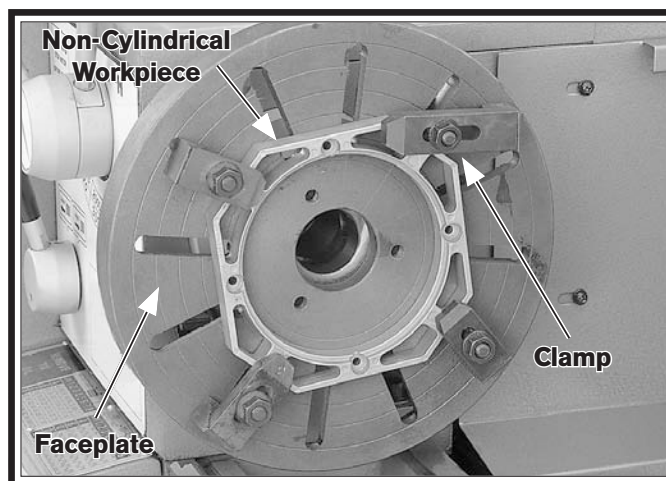

Figure 25. Example photo of workpiece clamped in a faceplate.
3. Position the workpiece onto the faceplate and clamp it in place with a minimum of three independent clamping devices (see **Figure 25** for an example).